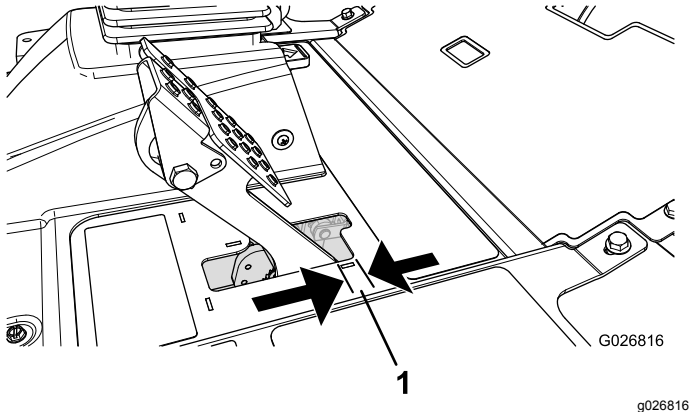

Figure 82
Adjust the brakes when there is more than 2.5 cm (1 inch) of free travel (Figure 82) of the brake pedal, or when more holding force is required. Free travel is the distance the brake pedal moves before you feel braking resistance.
2. Tighten the rear nut to move the cable backward until brake pedals have 0.63 to 1.27 cm (1/4 to 1/2 inch) of free travel (Figure 82), before wheel lock up is achieved.